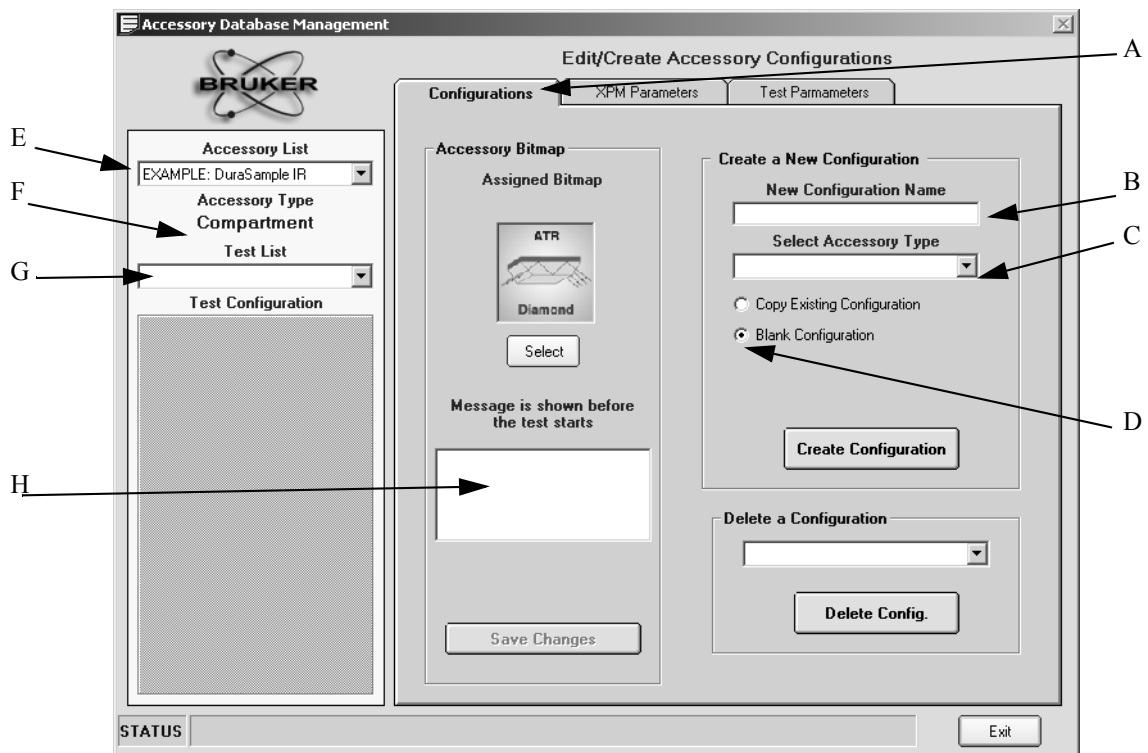

Figure 360: OVP Accessory Manager - Accessory Database Management dialog
- 8) In the message entry field (H in figure 360) you can enter an accessory-specific text which will be displayed at the beginning of the tests. This kind of text should reflect the steps required for preparing a test measurement.